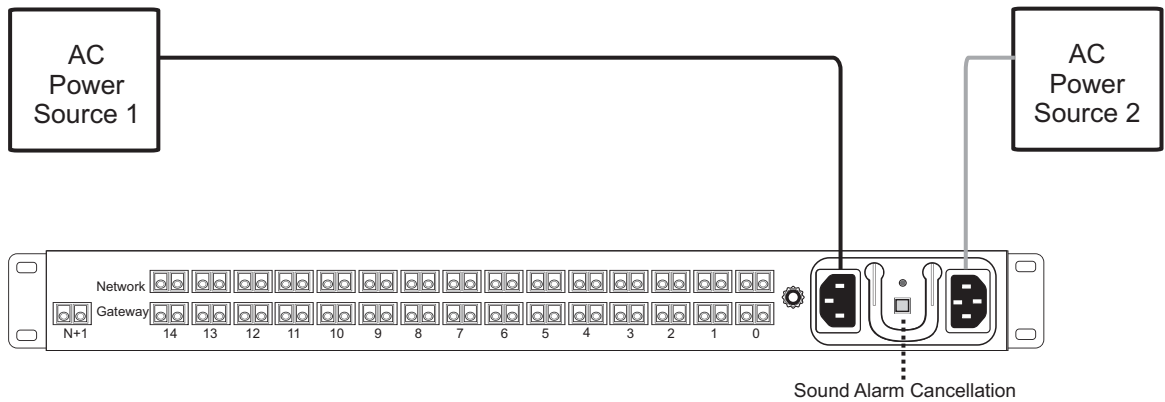

Figure 6.3 AC Power Connection
1. Connect an AC power cable between the AC connector of the 7800 N+1 Patch Panel and an AC supply. See figure 6.3 on page 52.